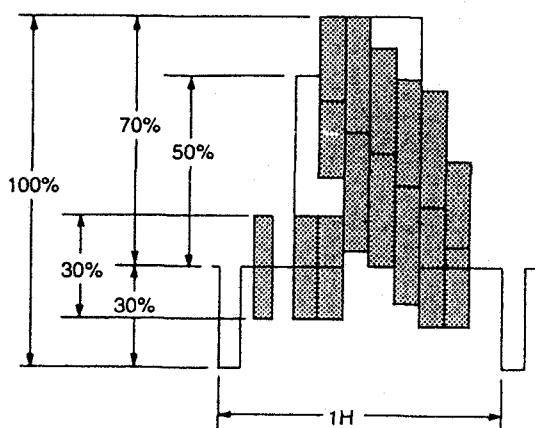

fig. 1.3A Split-field colour bars (with 100% window)
- PAL Colour-bar with the specification as in figure 1.3A below: